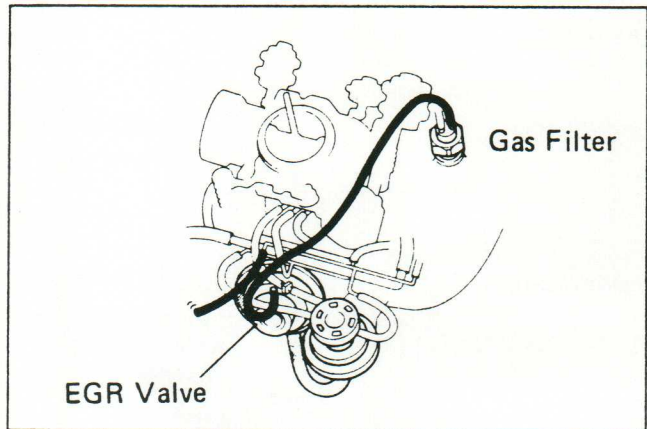

Figure 246-10
5. **Check the EGR valve.** Apply vacuum directly to the EGR valve with the engine idling. Make sure that the engine stalls. Reconnect the vacuum hoses to the proper location (Figure 246-10).